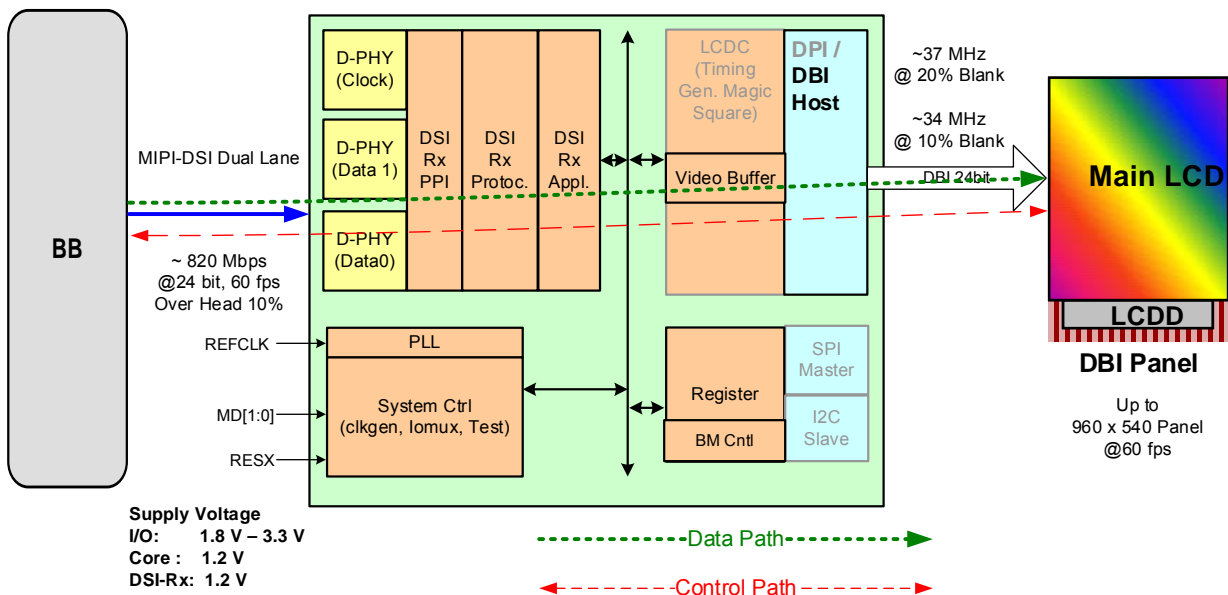

Figure 1.2 TC358762XBG in System Application – Output with DBI host only
2. Configuration 2, Figure 1.2:
3. Configuration 3, Figure 1.2: